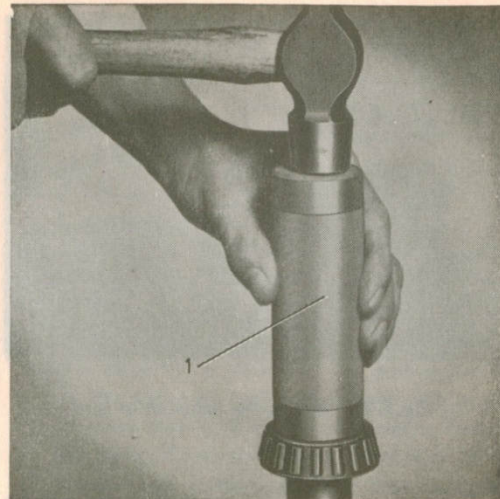

Fig. 5-29. Fitting the axle shaft bearings
2. Drive the bearings (15) onto the axle shaft if they have been removed. Use tool SVO 1805, see Fig. 5-29.